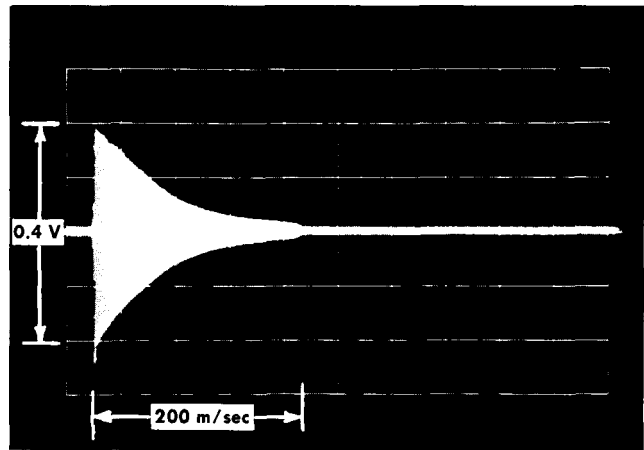

Fig. 6-10. Degauss waveform, coupled through 10Ω loop.
g. Check the stored display for a four-centimeter (0.4 V) damped waveform lasting approximately 200 milliseconds. See Fig. 6-10.